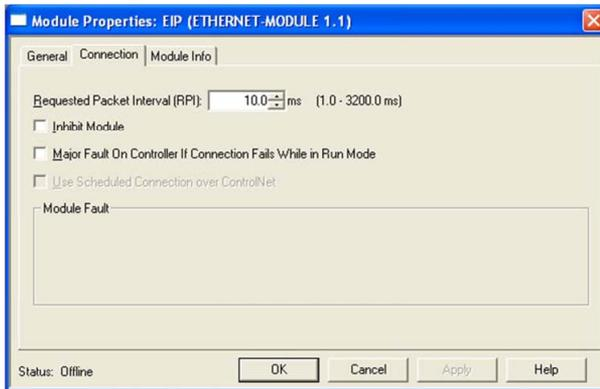

Figure 79: Interface Card Module Properties Connection Tab
- 5) You should now see the new module (named “ETHERNET-MODULE Fuji_Inverter”) in the 1756-ENBT/A branch under the I/O Configuration in the controller organizer view. Right click on this new module, choose “Properties”, and select the Connection tab. Refer to Figure 79.